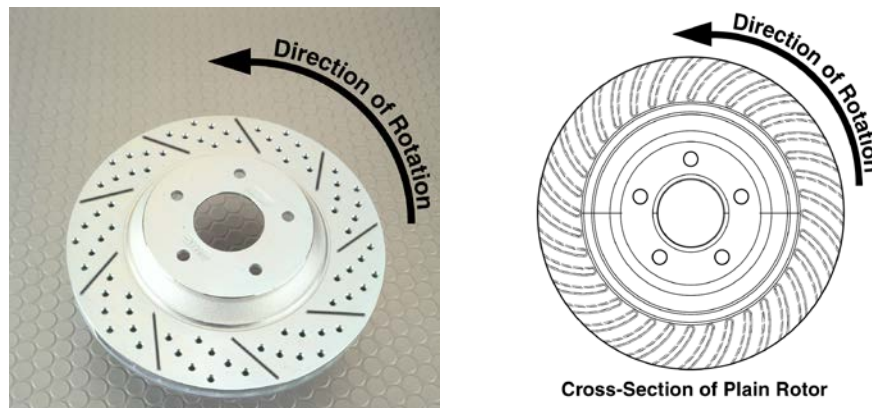

Figure 5 – Direction of Rotor Rotation
11. Place the correct LH or RH rotor onto the axle flange. Use three lug nuts when installing to hold the rotor tight against the flange which will hold the rotor from moving to allow for caliper installation and to avoid scratching the rotor. When installing rotors, be sure to follow the direction of rotation indicated on the rotor hat area with either an arrow or with an “L” for driver side or an “R” for passenger side. Figure 5 below shows the direction for reference.